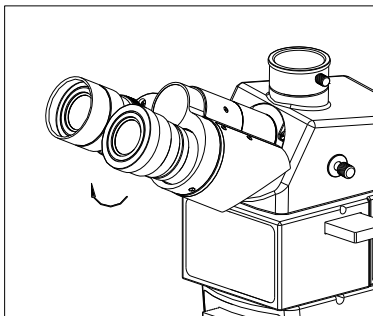

Fig.33
- (1) Turn down the eye-cap if the user is wearing glasses, so that it can prevent the glasses touching the eyepieces and avoid damaging to both glasses and eyepieces.
- (2) Open the eye-cap if the user doesn't wear glasses, so that it can prevent stray light disturbing the observation. (See Fig. 33)